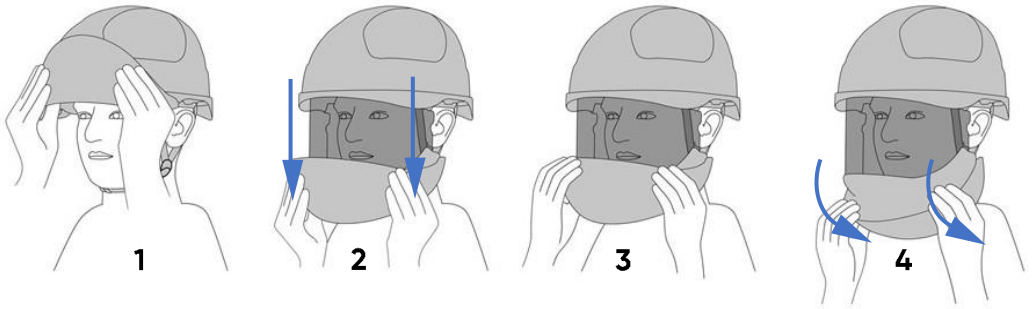

Fig. 6
1. To lower (open) the face shield (Fig.6), gently grab it with both hands, with thumbs on the inside (1), pull it down (2), until it fully extends to the outside of the helmet (3), and then turn the chin cover by pulling it towards you (4), until you hear a click of the hinges of the chin cover.